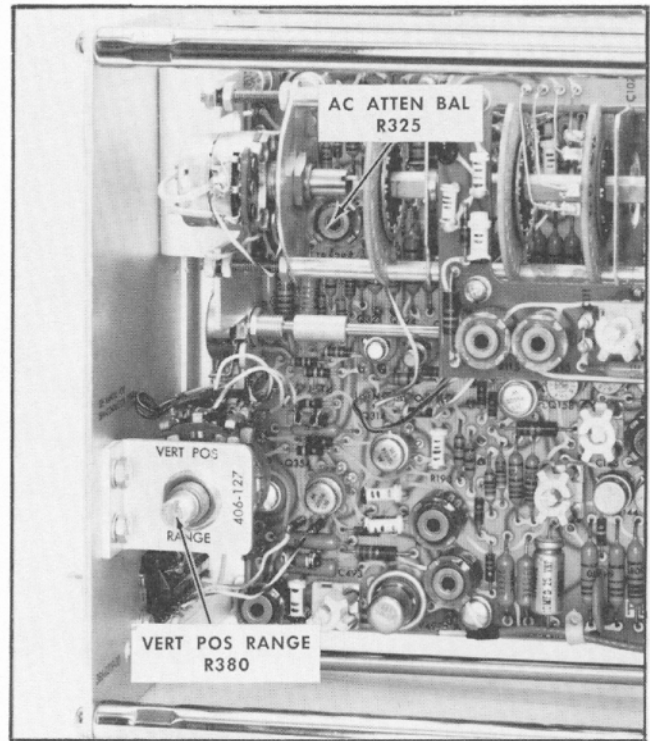

Fig. 6-6. Location of the AC ATTEN BAL R325 (steps 1 and 2) and the VERT POS RANGE R380 (steps 1 and 3) adjustments.
- b. Preset the AC ATTEN BAL (R325) and VERT POS RANGE (R380) adjustments (see Fig. 6-6) to midrange if it is suspected that these controls are not in proper adjustment.
- c. Rotate the VOLTS/CM switch from the 10 mVOLTS position to 10 μ VOLTS. If there is a trace shift, leave the VOLTS/CM switch in the 10 μ VOLTS position and adjust the AC ATTEN BAL control (R325, see Fig. 6-6) so the trace is positioned to the same point as noted in step b.
3. Adjust VERT POS RANGE (R380) ①
c. Check that the trace coincides with graticule center. If it does not, adjust the VERT POS RANGE control (R380, see Fig. 6-6) to center the trace.